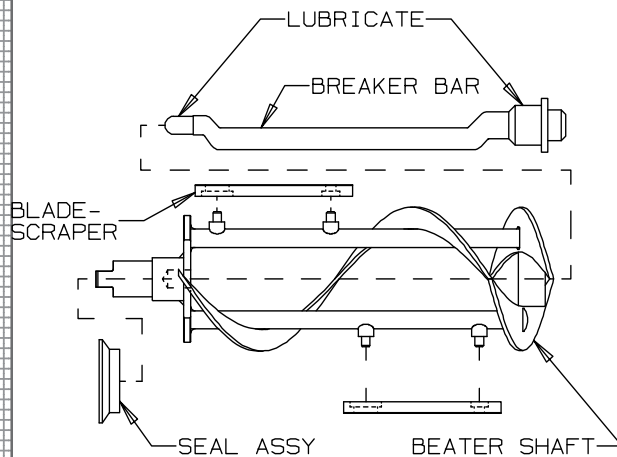

Figure 8-2 Assemble beater shaft assembly
2. 12. Install the shaft seal assembly over the rear of the beater shaft with the bell-shaped portion facing the rear (figure 8-2). Wipe any excess lubricant from the beater shaft.
4. Slide the breaker bar into the center of the beater shaft so the bar fits into the hole in the rear beater shaft disc. Place the scraper blades on the beater shaft, as shown in figure 8-2,